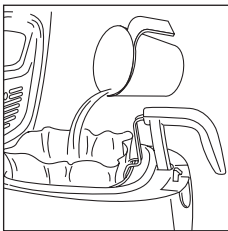

fig. 15
8. Pour the oil or fat very slowly into the basket ensuring that it does not overflow from the filter (fig. 15). After use throw the filter away.